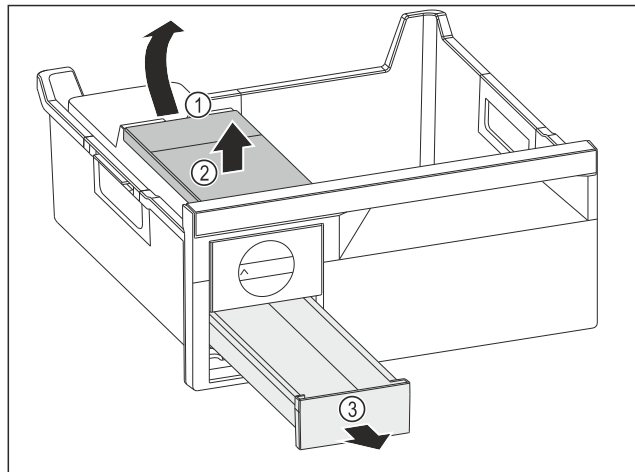

Fig. 130
- ▶ Removing the water tank: Lift the water tank by the recess Fig. 130 (1).
- ▶ Remove the water tank Fig. 130 (2) upwards.
- ▶ Remove the ice cube drawer Fig. 130 (3) to the front.